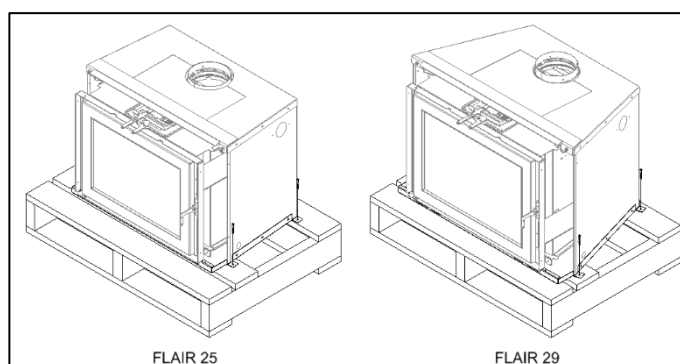

Figure 3-4: FLAIR Removal from Pallet
- b) Unfasten the base of the unit from the pallet (See Figure 3-4).